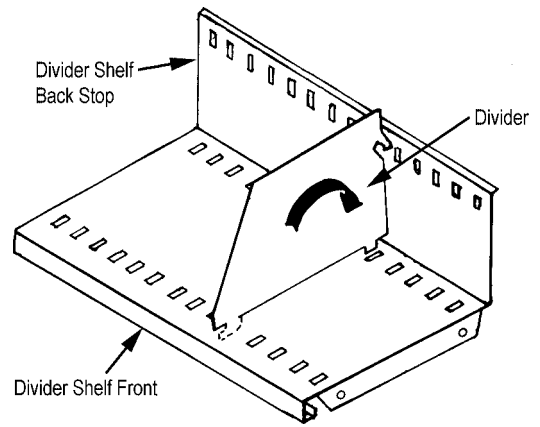

FIGURE 32
1. Dividers are set in shelf by first hooking the front hook of divider into the slot at the front of the shelf. See Figure 32.